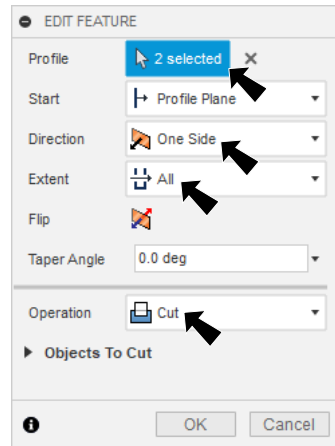

Fig. 22
Step 17. In the Extrude panel set, **Fig. 22**